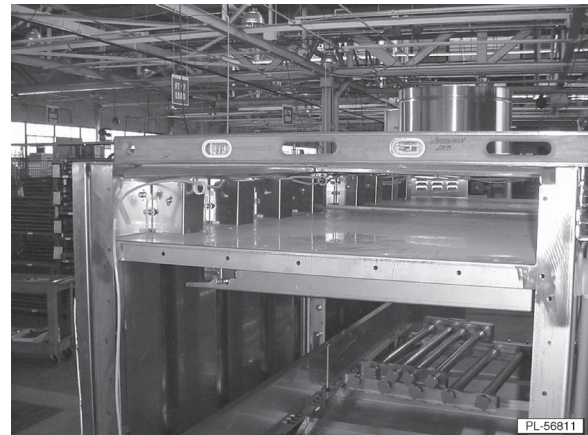

Fig. 7
- Continue to level the center section front to back by placing the level across the top corners of the chambers on both ends of center section (Fig. 7).
The tank support rails should be level across the entire length of the machine (Fig. 5). Sections to be mated should be level front to back (Fig. 7). Refer to page 8.